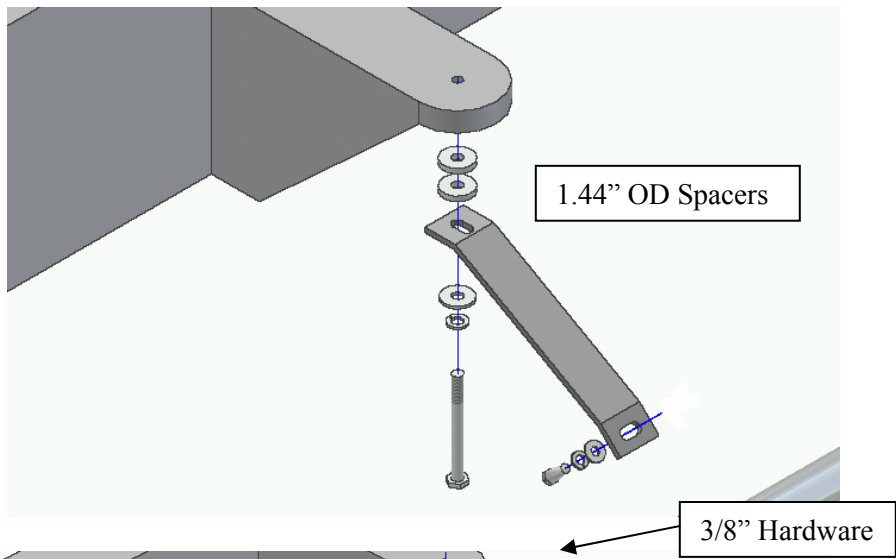
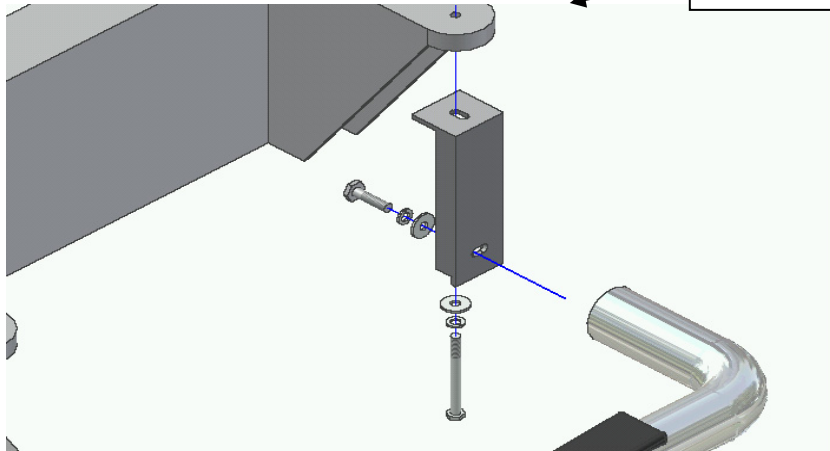

Figure 1.3 –
Figure 1.4 – Rear Bracket
3. Attach and secure Rear Mount Bracket to underside of vehicles rear body mount as shown in Figure 1.4, in same manner as the front. Repeat for Center Brace, but insert (2) 1.44" OD spacer washers between Center Brace and center body mount (see Figure 1.3).
4. Attach Side Tube to Front and Rear Brackets using (1) ½" x 2" bolt, (1) ½" lock washer and (1) ½" flat washer for each bracket, and hand tighten. Fasten Center Brace to Side Tube using (1) 3/8" x 1" bolt, and (1) 3/8" flat washer. Adjust Side Tube so that it is level and centered, and tighten all bolts to complete the driver-side assembly.